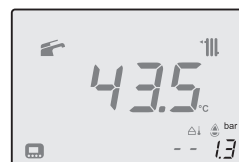

Fig. 2.2
In order to guarantee safety and correct operation, it is essential that all the tests are carried out by a competent and responsible service engineer before lighting up the boiler. The tests are described in the installation instructions in section 7 commissioning. Ensure that the c.h. circuit is regularly filled with water (even if the boiler is only used for d.h.w. supply) checking that the pressure indicated on the bottom part of the display Fig. 2.2.
In the case of incorrect pressure the value is visualised with a  flashing symbol (Fig. 2.2).
- Open the valves of the filling loop and watch the display until it reaches normal filling pressure as shown in Fig. 2.2.